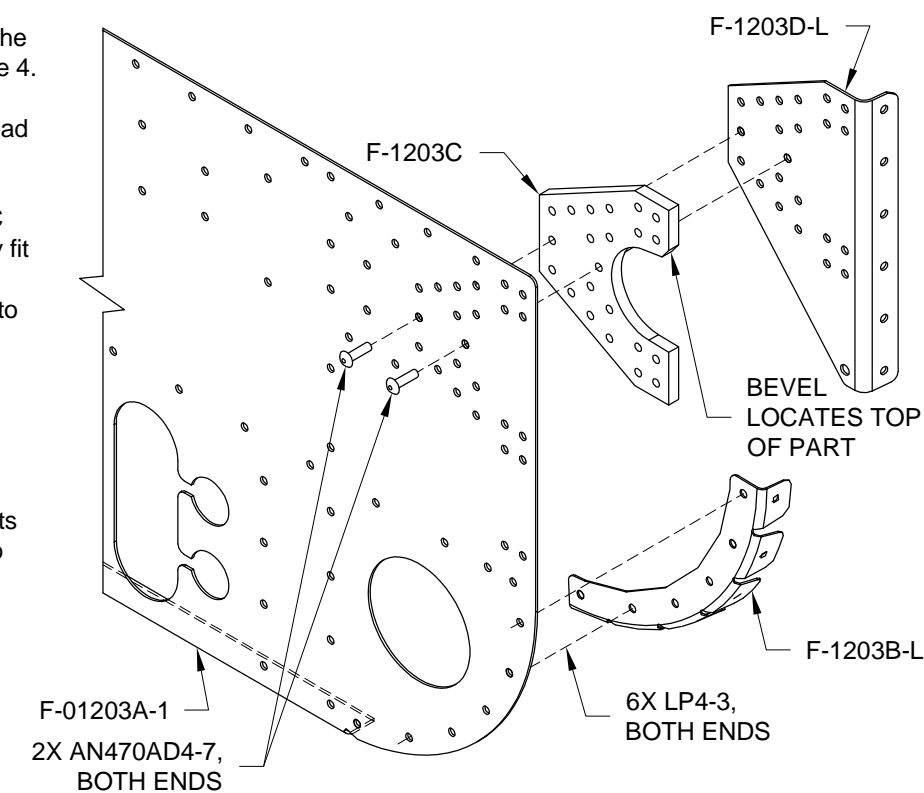

FIGURE 4: RIVETING F-01203A-1
Step 5: Rivet F-1203B-L to the left, aft side of the F-01203A-1 using the rivets called out in Figure 4.
Step 7: Cleco F-1203C and F-1203D-L to F-01203A-1 as shown in Figure 4.